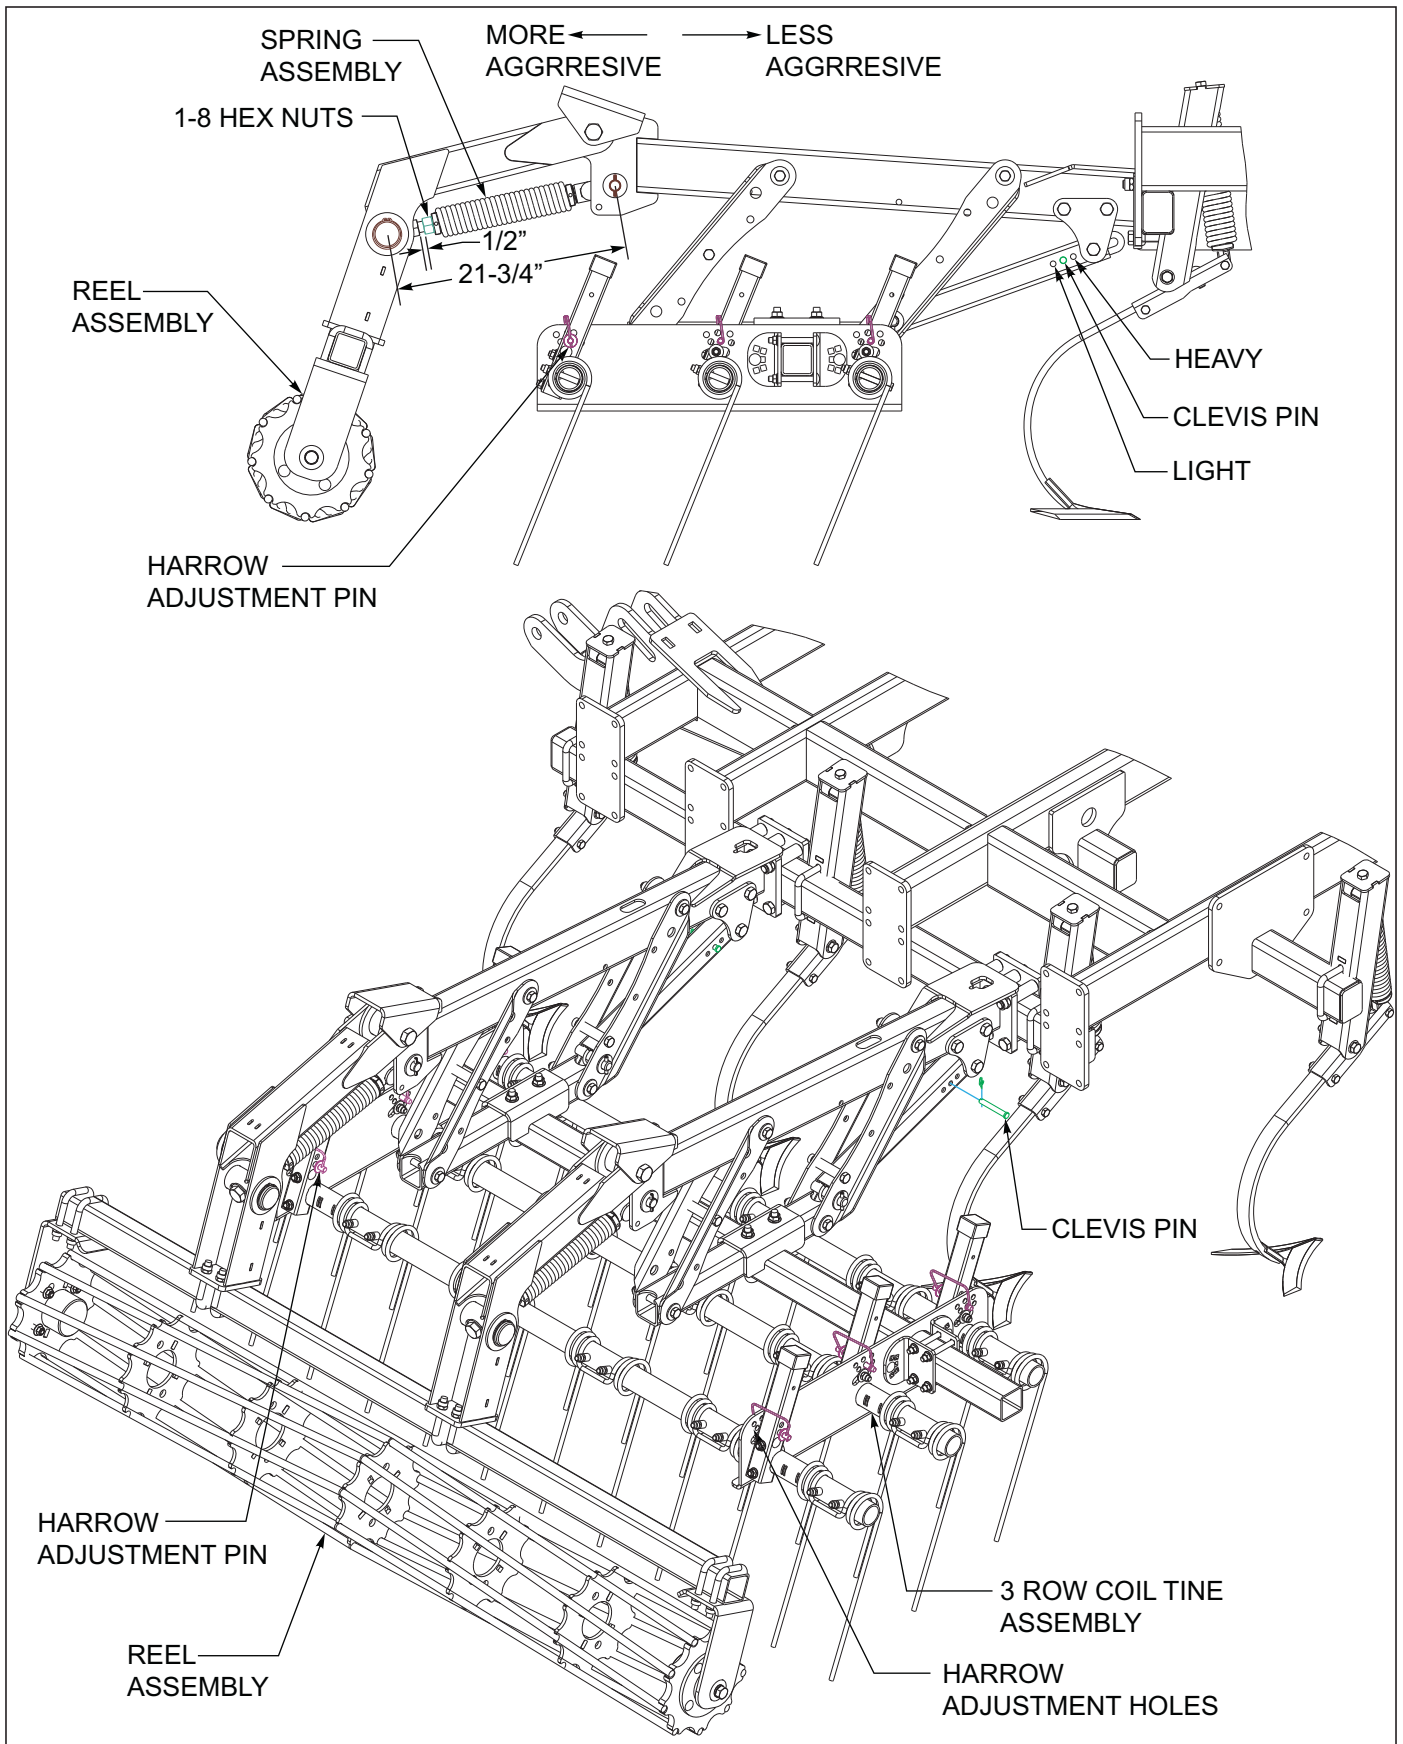

Figure 4-19: 3 Row Coil Tine and Reel Adjustments
3. In general tine harrows have better capabilities for handling more residue and wetter conditions. When operating the coil tine harrow, a more vertical tine tooth angle will make the harrow more aggressive. A lower/flatter tine angle will make the harrow less aggressive but will handle more residue and wetter conditions. To change the tine angle, raise the harrow off the ground. Remove the harrow pin from both angle adjustment tubes per tine gang bar tube See Figure 4-19. Rotate the angle adjustment tubes forward (less aggressive) or rearward (more aggressive) and reinstall both spring clip pins. Repeat the tine adjustment for each tine gang bar tube and harrow section.
6. Each coil tine harrow may be adjusted for spring pressure as well See Figure 4-19. Raise the tine harrow off the ground. Remove the clevis pin from the spring tube and install in a heavy or light setting as needed. **Excessive spring pressure and tine angle can overload harrow spring.**
7. To adjust the reel height, loosen the locking hex nut against the threaded spring end See Figure 4-19.